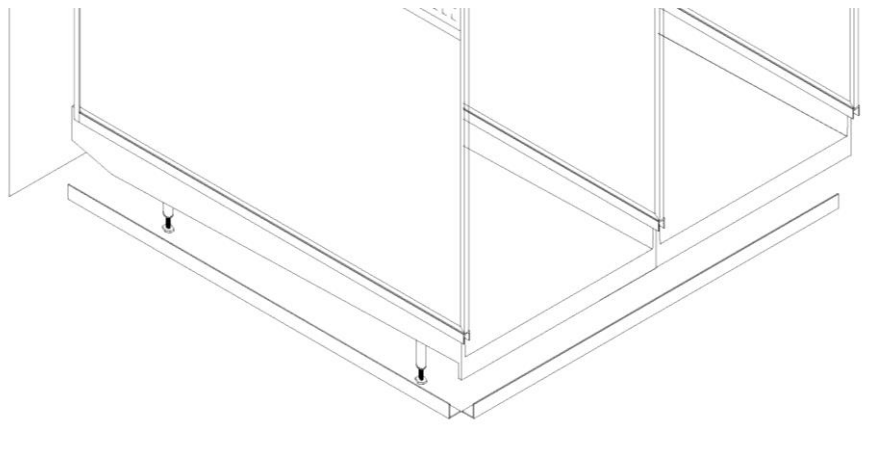

Fig. 15
2. Place aluminum angle supports along chalk lines to determine proper fitment. Some trimming of aluminum angle supports using a 4 ½" Angle Grinder w/Abrasive Cutoff Wheel may be necessary to achieve proper fitment, depending on individual application. See Fig. 15.